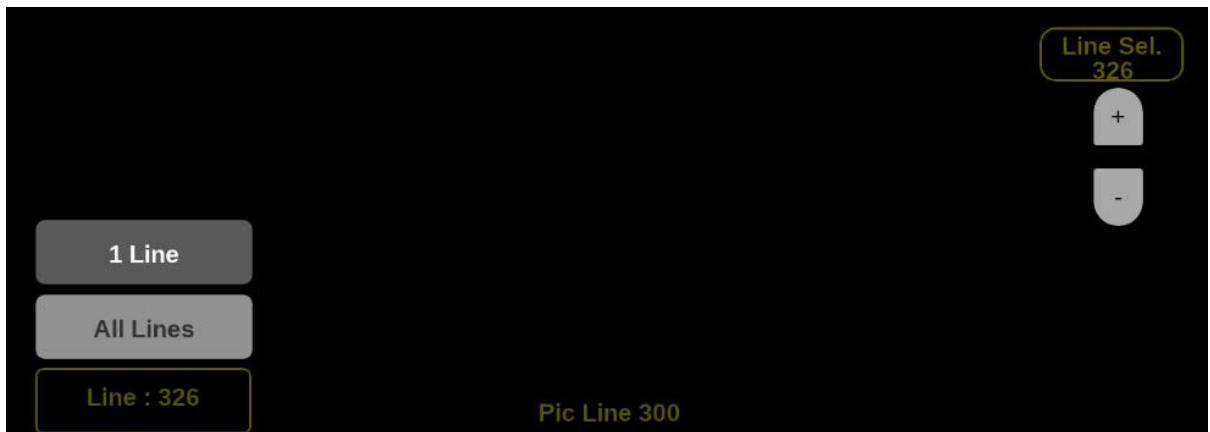

Figure 221: Lightning on-screen tools – Line Select
If **1 Line** is selected then the display will only show results for the selected line in the picture. The line can be selected using the on-screen tools. (See Line Select function.) Or the line can be selected directly on the Picture. (See Figure 221.)
1. Select the **Lines** button at the bottom of the application. (See Figure 221.)